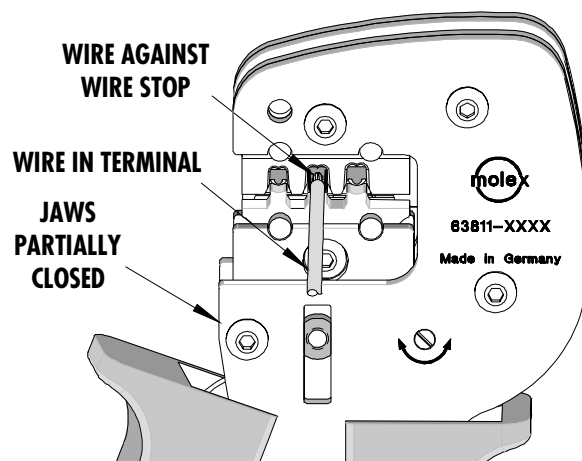

Figure 3
5. Insert the proper wire over the terminal. Gently touch the wire stop with the end of the wire. See Figure 3 and 4.